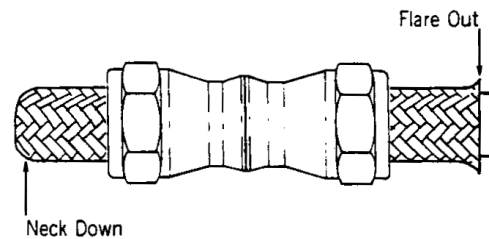

Figure 13 - Placing Sockets On Hose
- Step 2. Install sockets (size -4 through size -10). Place two sockets skirt-to-skirt in vise (see Figure 13), and work hose through sockets with a twisting pushing motion. Installing sockets over “neckdown” end of hose will facilitate assembly.